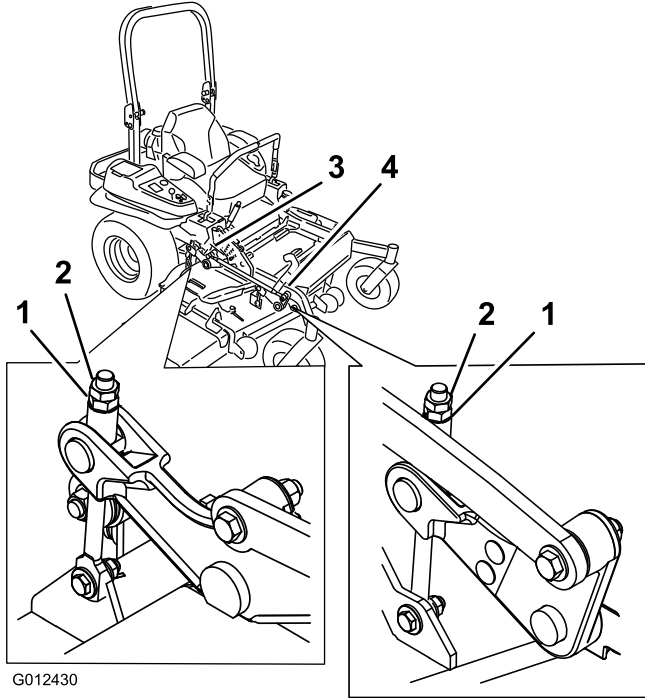

Figure 89
10. Fine-tune the adjustment nut on the front deck lift assembly by turning it (Figure 89).
16. Fine tune the screw adjuster by turning it to get 8.3 mm (3-1/4 inches) height (Figure 89).